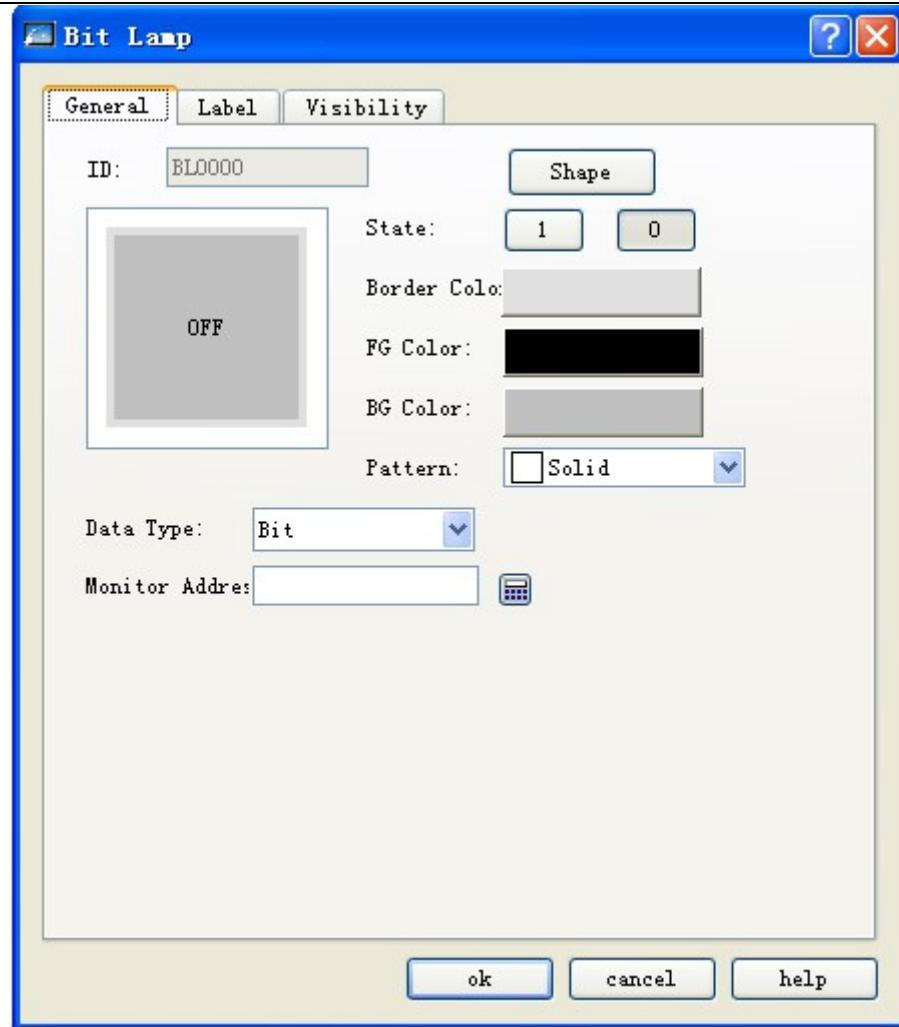

Figure 4-84: Bit Lamp dialog
1. Choose the Bit Lamp button icon in the tool bar, and then a dialog as shown in Figure 4-84 will appear.